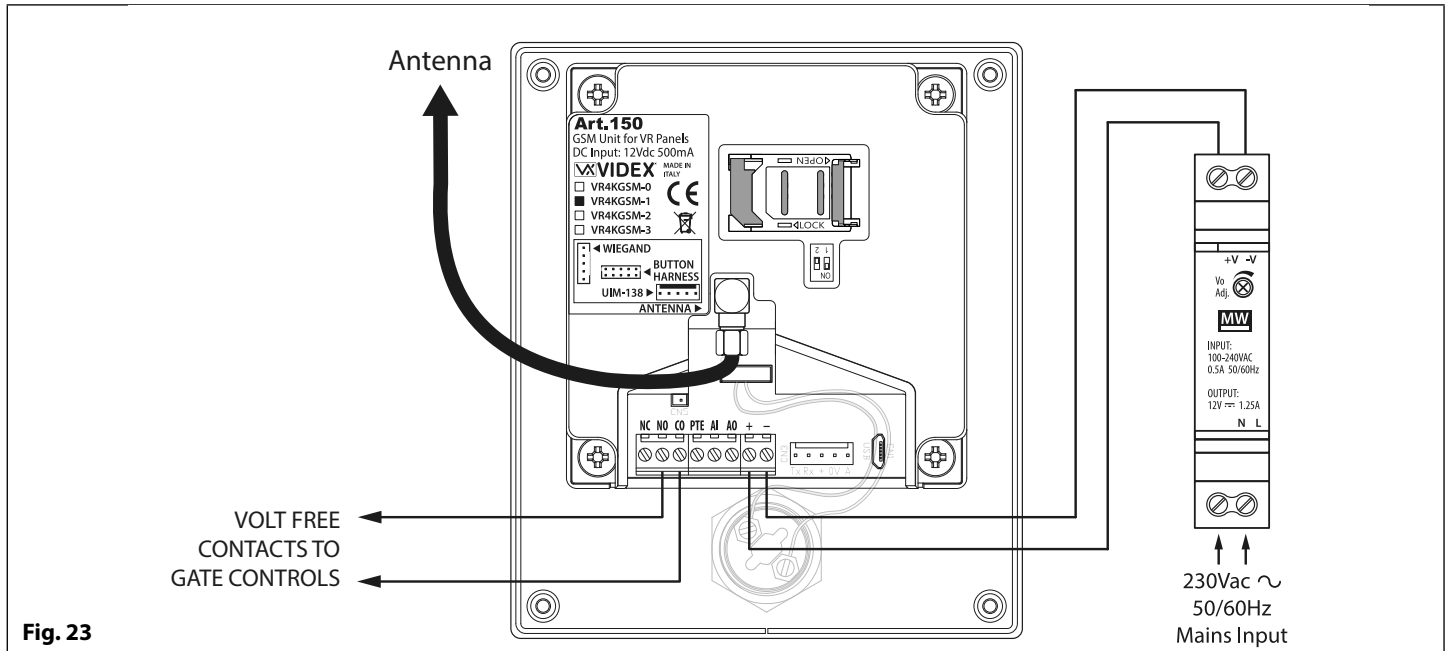

**Fig. 22**
**Fig.22** shows connections for a **GSMVRKC-1 / GSMVRKC-1S** audio kit with wiring for a 12Vdc fail secure lock release through **RLY1** contacts (C1/NO1) of the VR4901 keypad. Inset are wiring connections for volt free gate contacts and wiring connections for a 12Vdc fail safe lock release also shown wired through **RLY1** contacts (C1/NO1) of the VR4901 keypad.